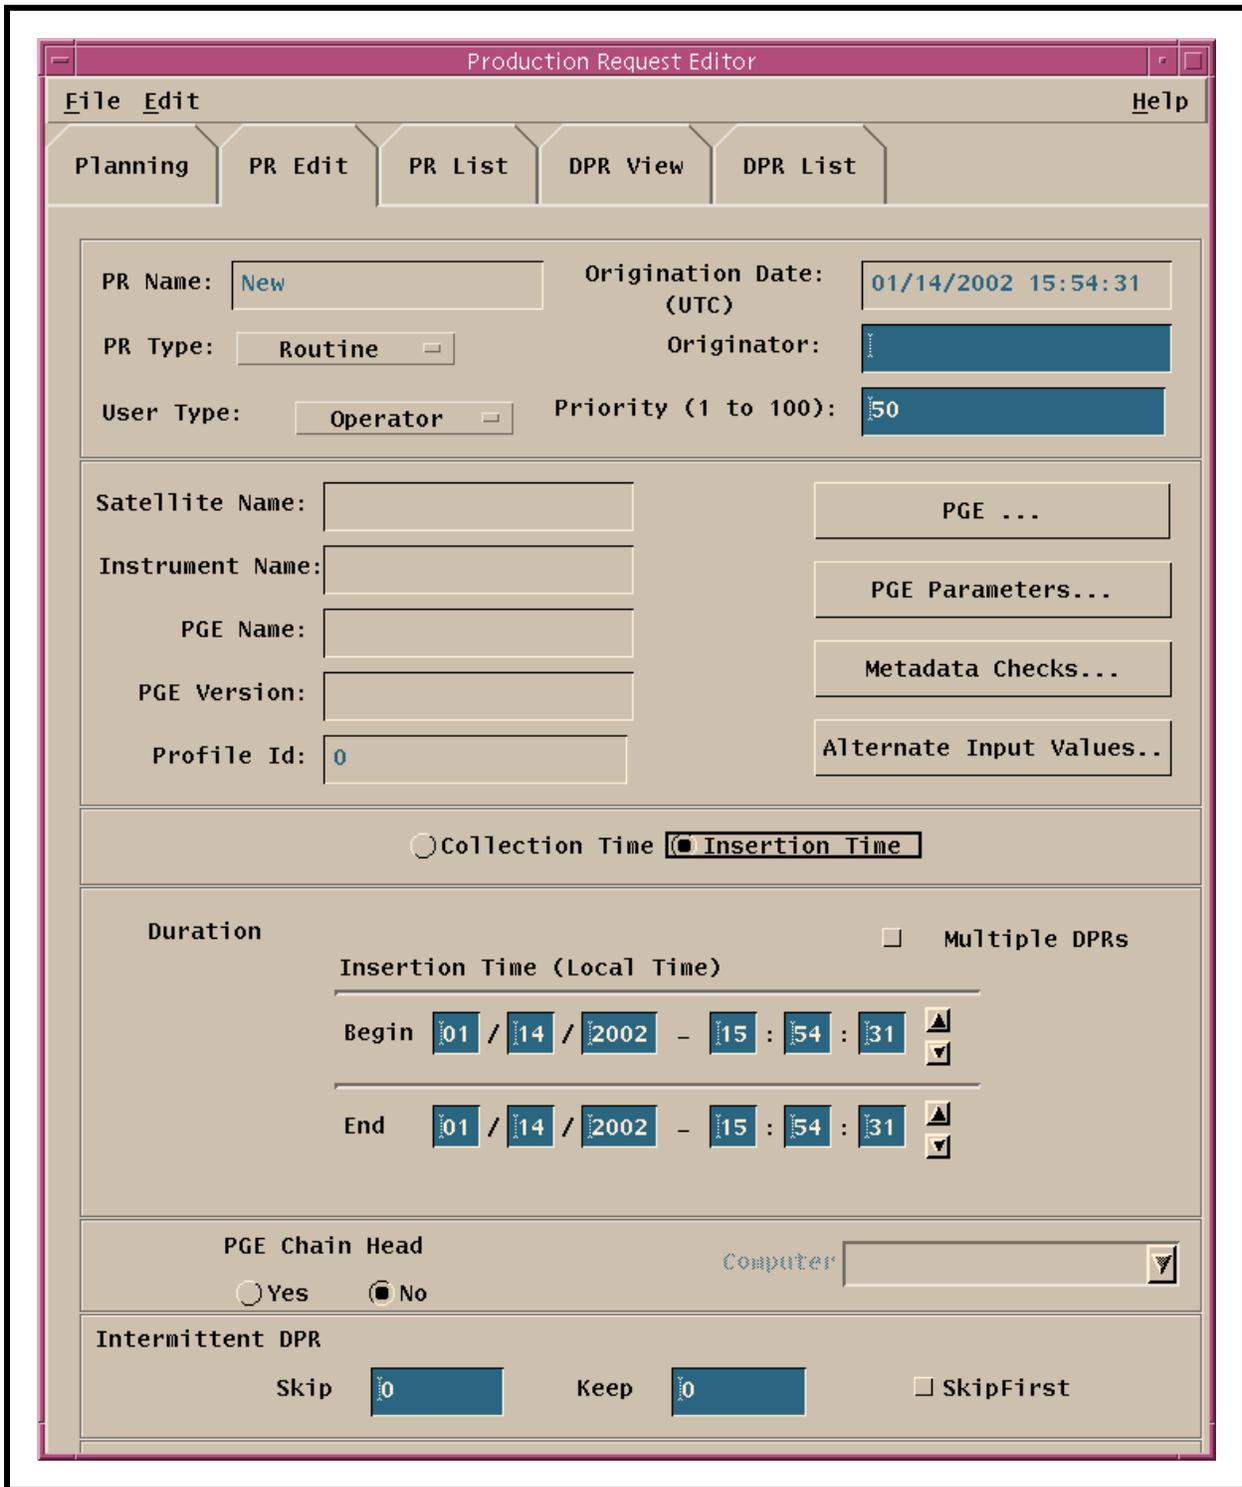

Figure 23. PR Edit GUI with Multiple DPRs Toggle Button
NOTE: Depending on the specific PGE chosen, either the **Collection Time** or **Insertion Time** button is automatically selected. **Collection Time** (time when the data were collected by the instrument on the satellite) is used for most PGEs. The **Insertion Time** option is available primarily for ASTER processing to allow the generation of DPRs for all data contained on an ASTER tape received from the ASTER Ground Data System (GDS). If the **Insertion Time** option is selected, the **Multiple DPRs** toggle button appears on the **PR Edit** GUI as shown in Figure 23.
- 31** If the Multiple DPRs for Insertion Time Production Rule applies, ensure that the **Multiple DPRs** toggle button (Figure 23) is depressed.